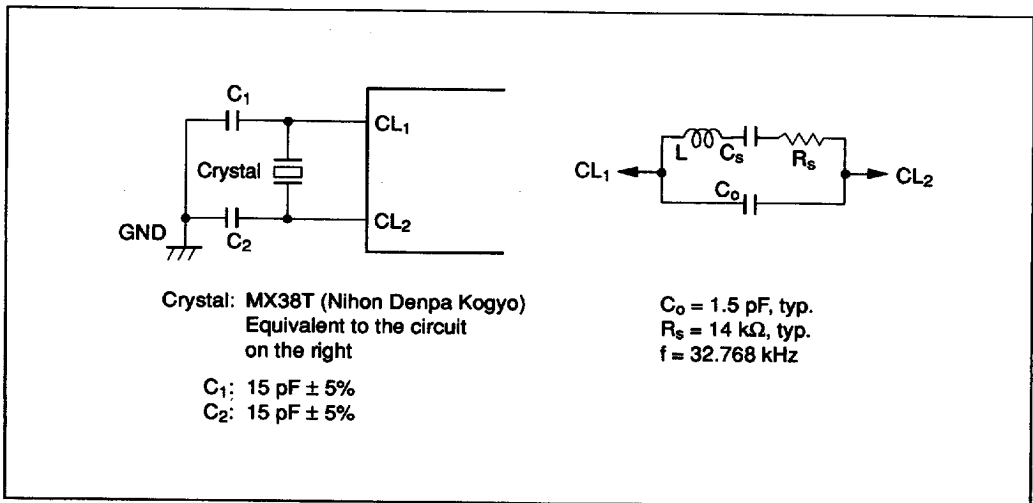

Figure 57 Oscillation Circuits (2)
2. The oscillation stabilization time is the period required for the oscillator to stabilize after V_{CC} reaches 3.0 V at power-on (figure 57). The oscillation stabilization time (t_{RC}) must be ensured. If using a crystal oscillator, contact the manufacturer to determine what oscillation stabilization time is required, since it depends on the circuit constants and stray capacitances.